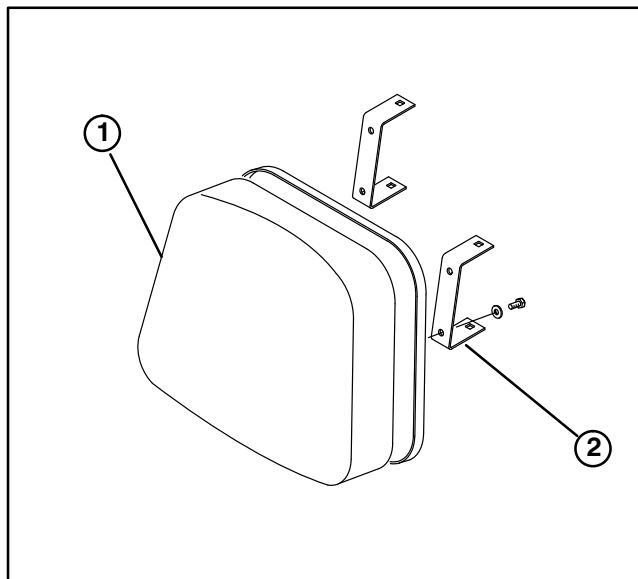

Figure 5
## INSTALL SEAT BACK CUSHIONS AND MANUAL TUBE (Fig. 5 – 6)
1. Mount (2) seat back brackets to each seat back cushion with (4) 1/4–20 x 3/4" lg. capscrews and 1/4" flat washers. Position brackets on seat back cushions as shown in figure 5.